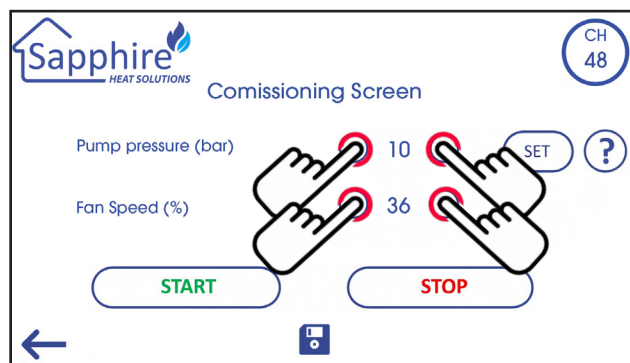

Fig. 23
- Then press the + or - buttons to increase/decrease the pump pressure setting (min 5bar to max 20bar depending on boiler model). Then set/trim the fan speed so that flue gas analyser reads the correct CO₂% value given **Fig. 23**